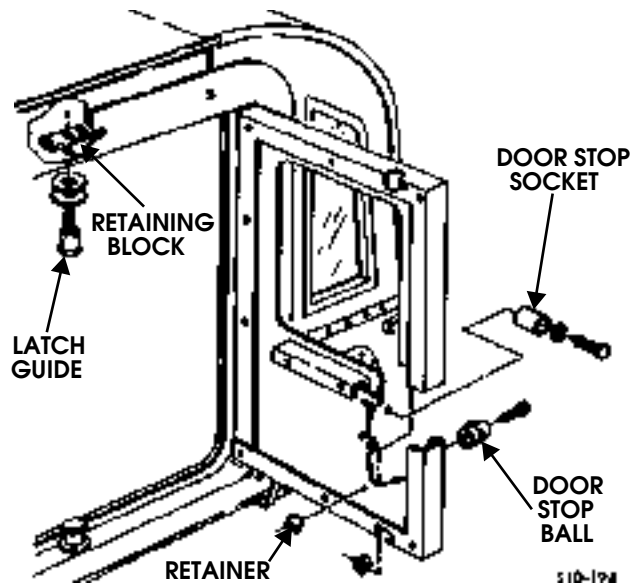

Figure 10-151: Door Stop and Latch Guide Replacement
4. Remove bolt, door stop ball, and retainer from door (Figure 10-151).
1. Secure door stop socket to right rear wheelhouse with washer, bolt, and retainer (Figure 10-151).
Remove latch guide, two washers, and retaining block from door frame (Figure 10-151).
Secure latch guide to door frame with two washers and retaining block (Figure 10-151).